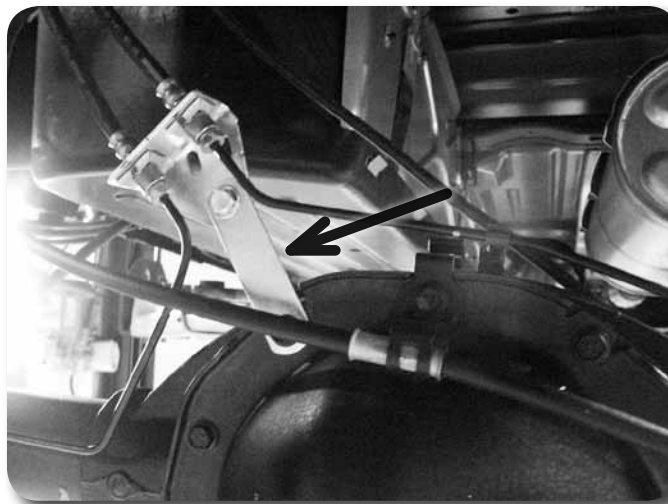

Figure 42
15. Install the provided straight 3" brake line bracket to the top of the differential using factory mounting hole and bolt which must be removed from the factory brake line bracket. Attach the factory brake line bracket to the relocation bracket with a 5/16" x 1" bolt, nut and washers. Torque the factory and 5/16" bolt to 20 ft-lbs **Figure 42**.